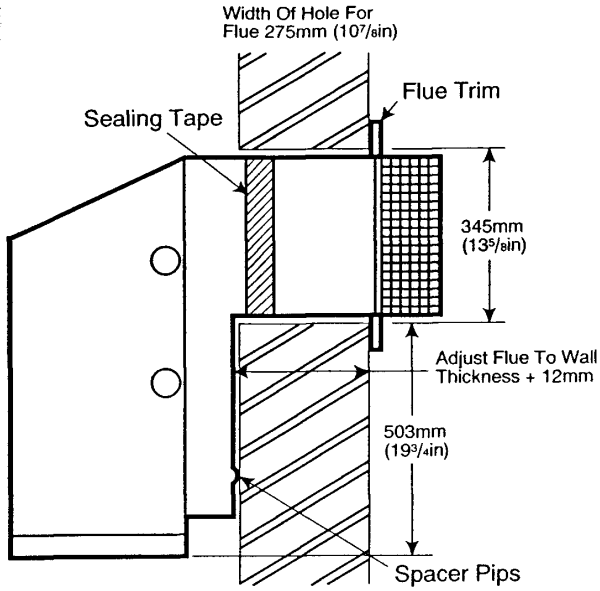

fig 1 - Flue Assembly
- 3) Select the most suitable position for the boiler (Figs 1 & 4).
Tape the joint between the flue terminal assembly and the air duct (Fig. 1).
- 7) Manoeuvre the boiler into position until the two spacer pipes behind the air inlet duct touch the wall (Fig. 1).
- 11) Fit the outer case as described in 'Outer Case' items 1 to 5.
- 14) Complete the assembly of the outer case as described in 'Outer Case' items 6, 7 and 8.